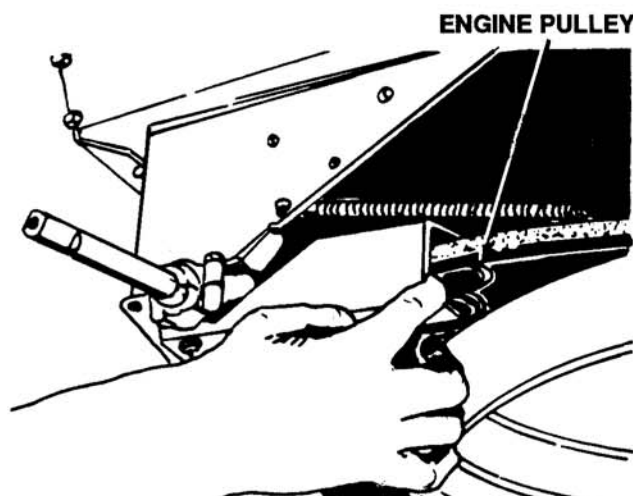

Figure 12-10. Pivoting Belt Guard Away From Engine Pulley
4. Pivot the lower outside belt guard out and away from the engine pulley. See Figure 12-10.